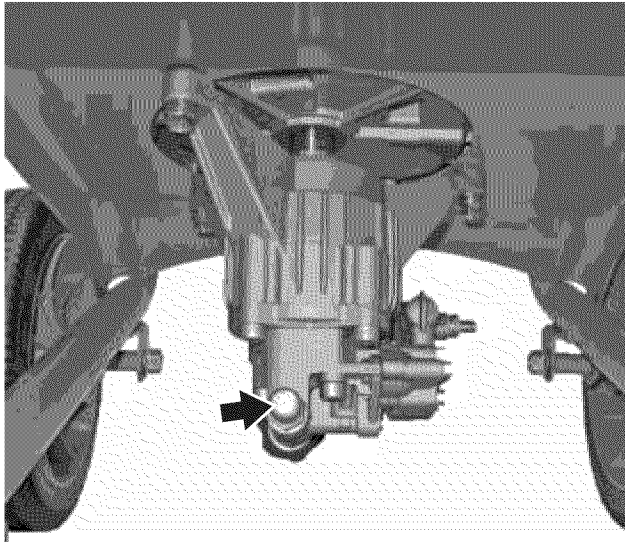
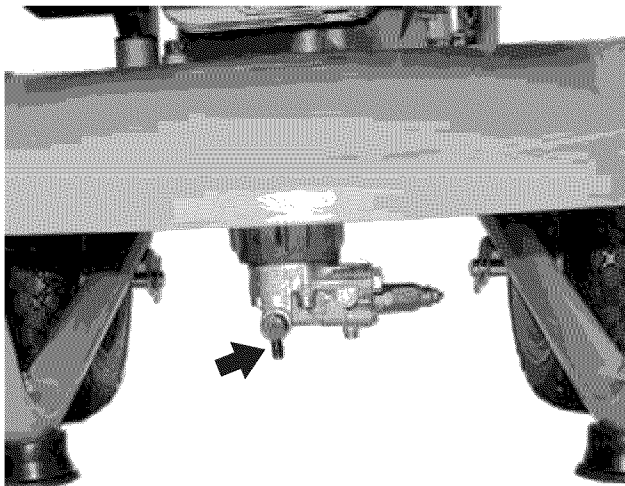

Figure 34 – Pump Thermo Valve WP2500
Figure 35 – Pump Thermo Valve WP2800
**NOTE:** The pump is equipped with a thermo valve (see Figure 34 and Figure 35). If the pump is run for an extended period of time without water flowing through it, it could overheat. If the pump gets to a certain temperature, the thermo valve will open and discharge warm water out the valve to allow cold water in to cool the pump.